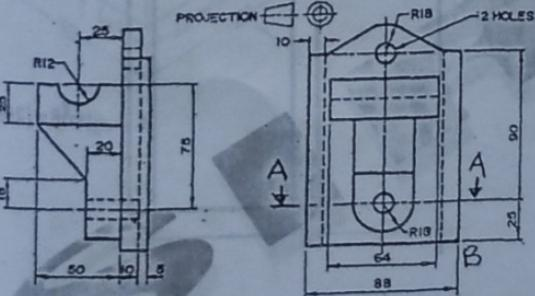

Figure 2
- b. Draw sections A-A as shown in Figure 2.